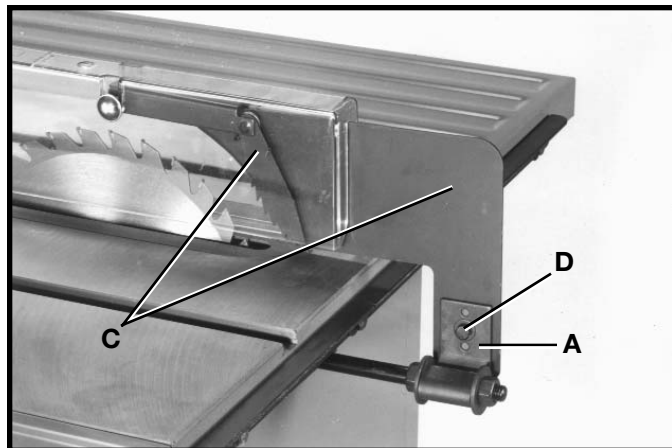
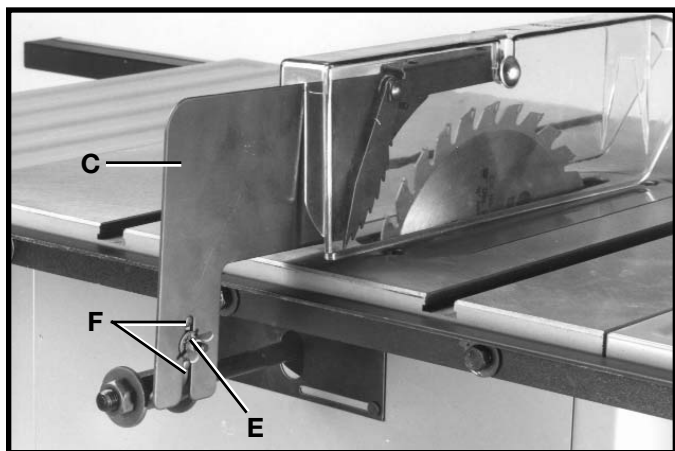

Fig. 27
Fig. 28
3. Assemble the blade guard and splitter assembly (C) to the splitter bracket (A) using the hex head screw, star washer and flat washer (D) Fig. 27, and wing nut, star washer and flat washer (E) Fig. 28.
4. **NOTE:** Make certain the two protrusions, “pins” (F) Fig. 28, are engaged with the channel of the splitter assembly (C) before tightening wing nut (E).